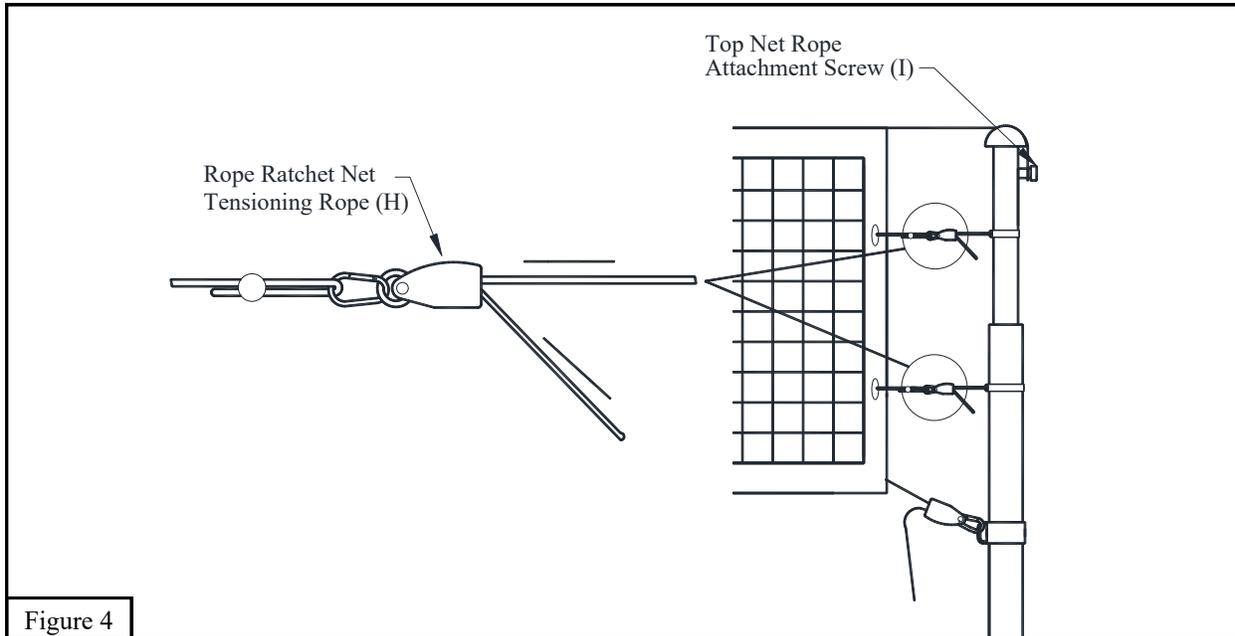

Figure 4
2. Run net top rope over the top rope guide on the non-winch *Standard* (A) and place loop over *Top Rope Net Attachment Screw* (I). See Figure 4.
4. Crank winch to remove most of the slack in the net, do not tighten for play, just enough to position net. Install one *Collar Strap* (J) to each pole 1”-2” below bottom of net. Hook the bottom net rope to the *Collar Strap* (J) on the non-winch pole with a *Carabiner Clip* (L). Hook the other end of the bottom net rope with rope ratchet tensioning device to the *Collar Strap* (J) on the winch pole. See Figure 4.
5. Crank the net top rope tight with the winch *SEE NOTE BELOW*. Pull bottom rope tight through the bottom rope ratchet tensioning device. See Figure 4.